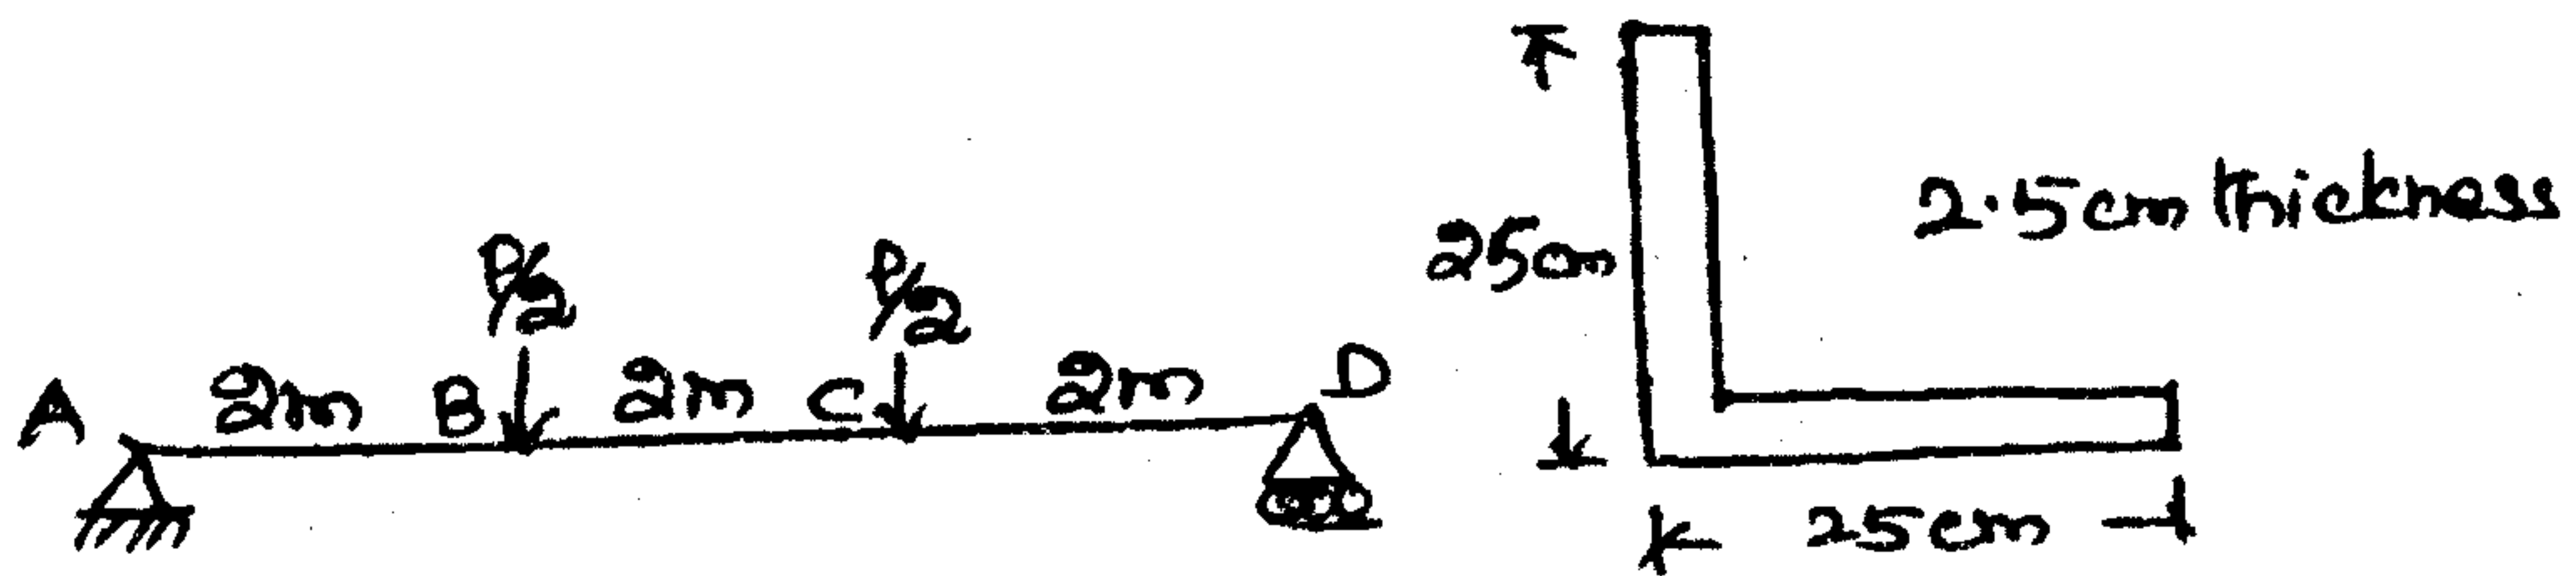

Fig. 15 (a)
15. (a) A  $25\text{cm} \times 25\text{cm}$  angle is loaded as shown in Fig.15(a). The total load  $P$  is  $70\text{ KN}$ . Find the direction of neutral axis between the loads. Also calculate the values of bending stresses at A,B and C.